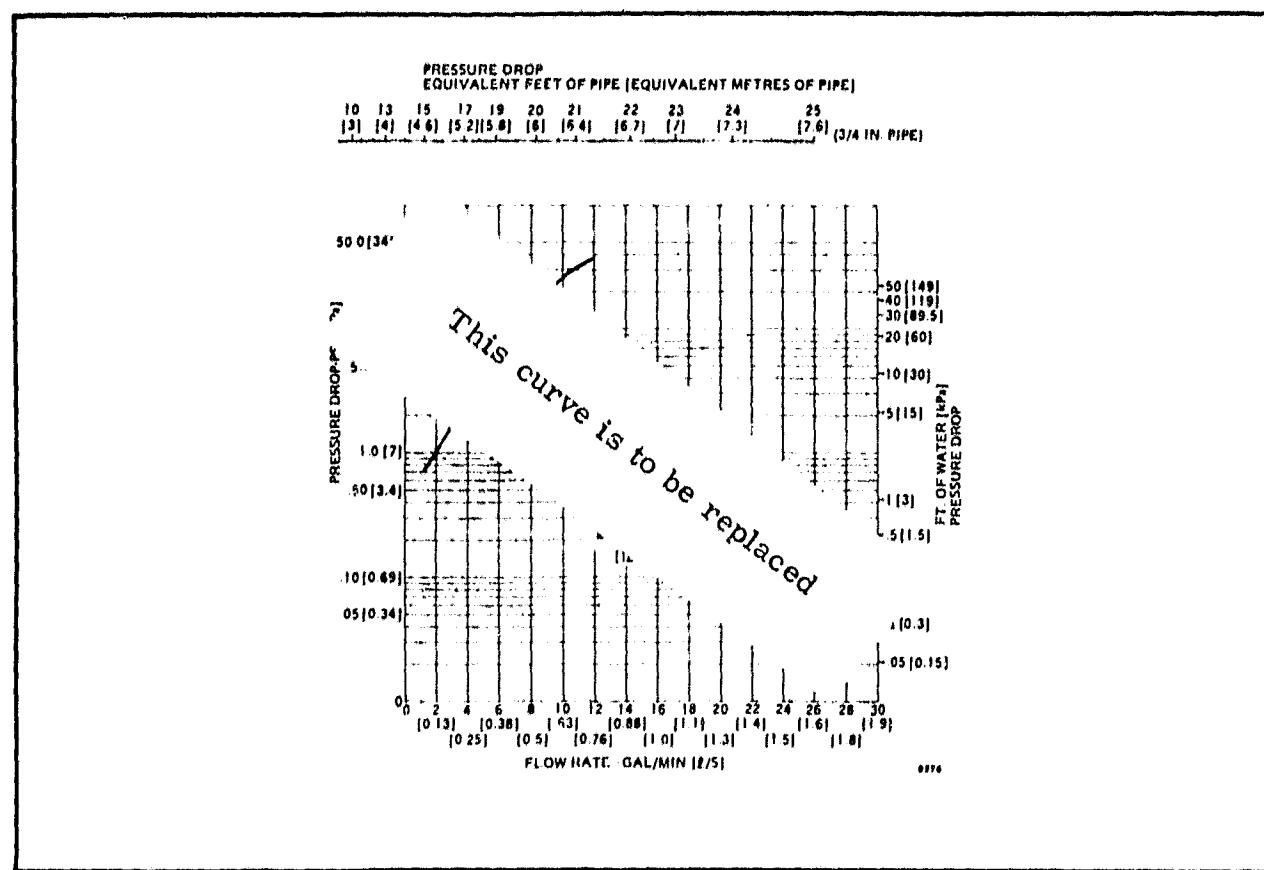

FIG. 2—FLOW CHARACTERISTICS OF Y534A DUAL DIVERTING VALVES.
1. Locate the flow rate at the bottom of the graph in Fig. 2.